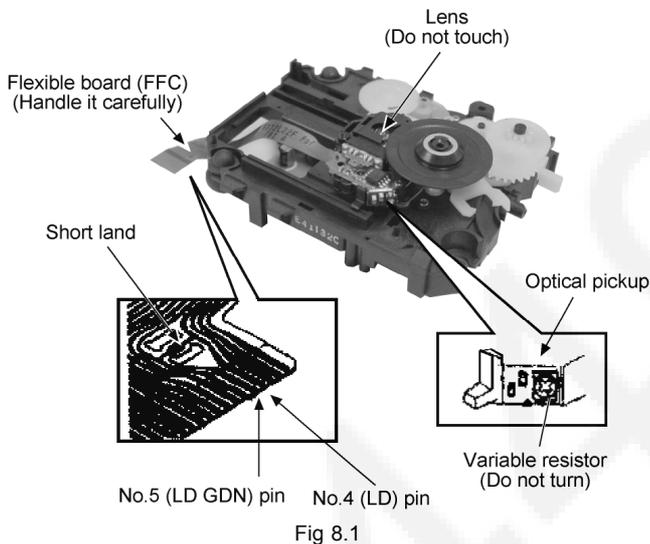

Fig 8.1
2. The short land between the No.4 (LD) and No.5 (GND) pins on the flexible board (FFC) is shorted with a solder build-up to prevent damage to the laser diode.
3. Take care not to apply excessive stress to the flexible board (FFC board) (Fig 8.1).